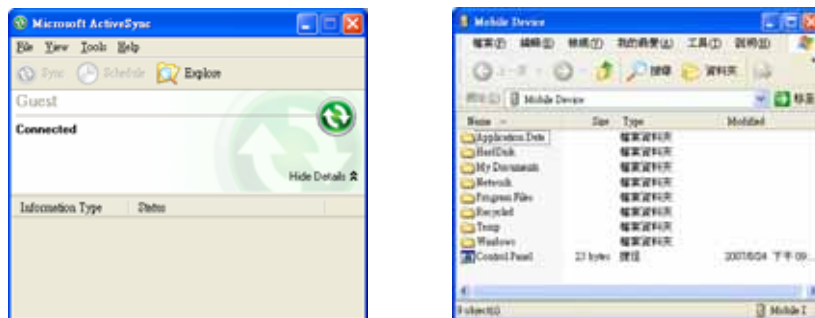

Fig 2-2
5. Now, ActiveSync should have detected a device has been connected to the PC, please then open ActiveSync window and click on the Explore button. As shown in Fig 2-2.